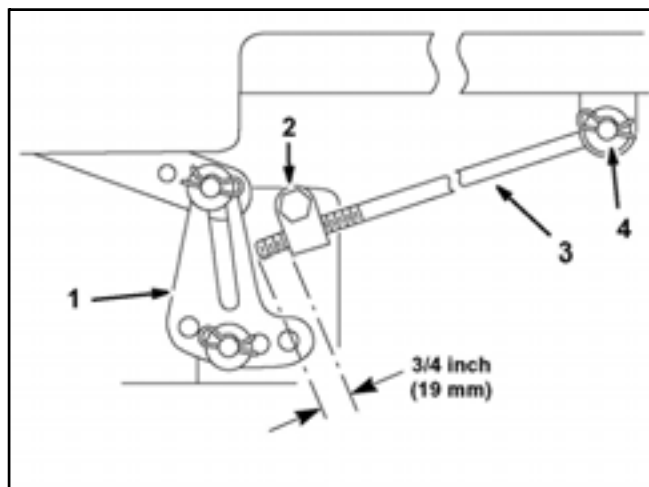

Figure 97
5. Measure the length of the rod extending out of the adjusting block on the sides of the chassis (Figure 97).
6. If the rod length is **not** 3/4 inch (19mm), remove the hairpin cotter and washer from the end of the adjusting rod (Figure 97) and turn the rod until the 3/4 inch (19mm) dimension is obtained.